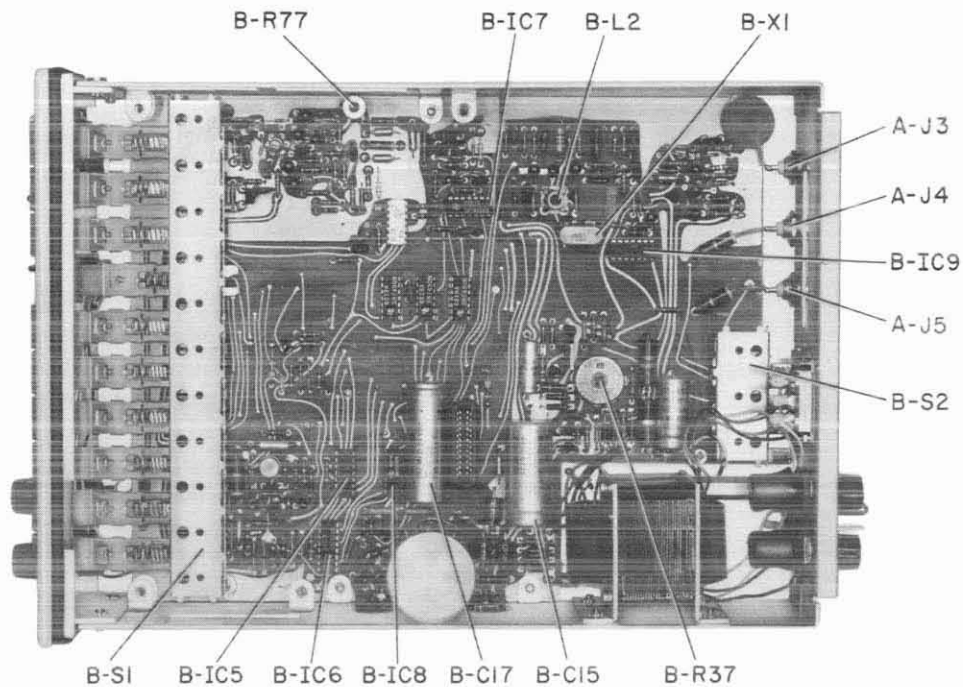

Figure 5-4. Top interior view of 1192 - Program Board only.
5.5.6 Switch Replacement. (Figure 5-4).